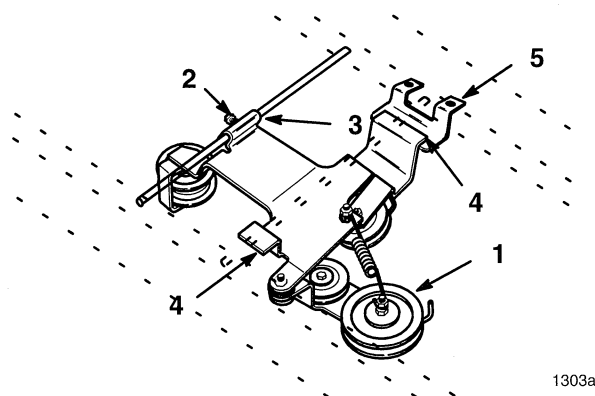

Figure 19
3. Rotate tiller drive pulley and slide belt out of groove (Fig. 19).
4. Loosen jam nut and bolt on idler assembly (Fig. 19). Unhook idler assembly from tractor lift shaft and slide to clear tabs at brackets to remove (Fig. 19).